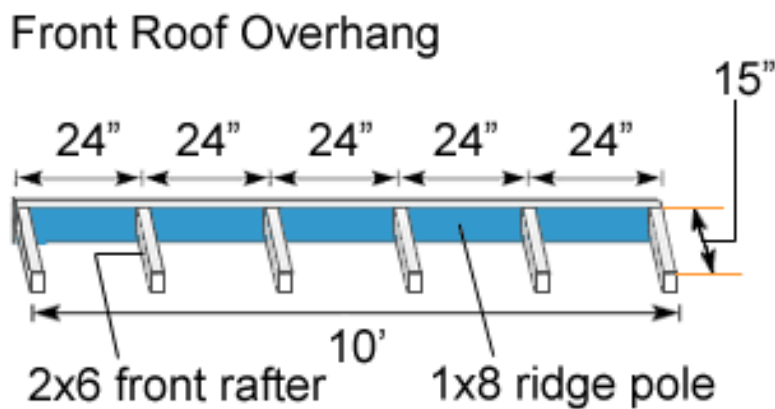

Figure 2
Step 4. Once your rafters are plumb, it is time to assemble the front overhang. This can be done on the ground and then attached as one unit. Start by end nailing the 2x6x15" front rafters to the 1x8x120" Ledger Board at 24" on center. Figure 2. Use three 16d framing nails for each rafter.